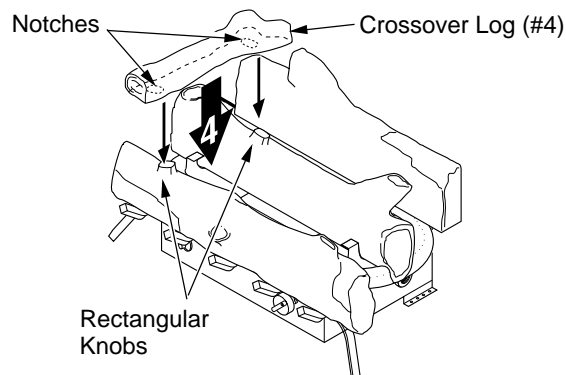

Figure 23 - Installing Crossover Log (#4)
4. Locate the notches in the bottom of the crossover log (#4). Place the crossover log on top of the middle log and front log. Make sure the notches of the crossover log lines up with rectangular knobs on top of the middle and front logs (see Figure 23).